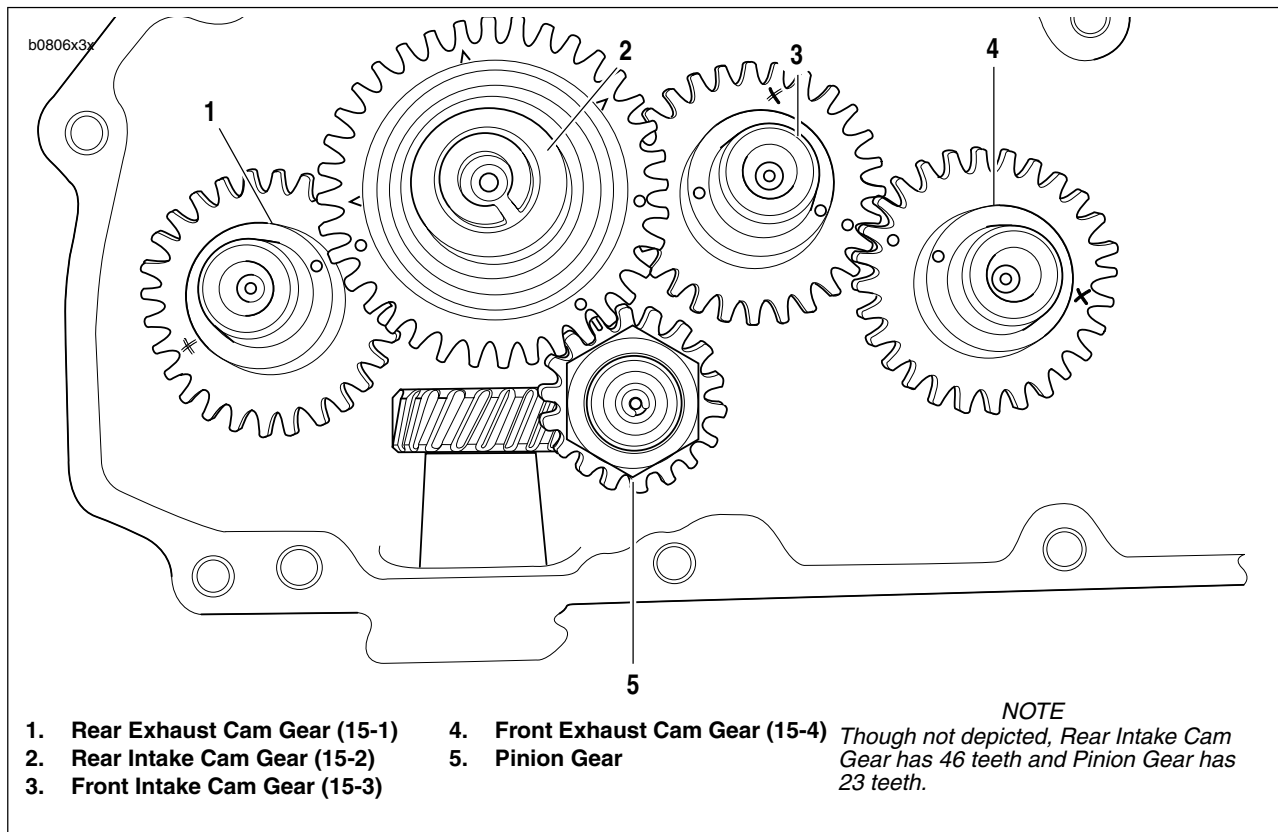

Figure 3-65. Cam and Pinion Gear Timing Mark Indexing
For location of cam and pinion gears, see Figure 3-65.
3. Liberally apply engine oil to bushings, shafts, and gears. Install all cam gears into bushings of right crankcase half, properly aligning timing marks of cam gears and pinion gear. See Figure 3-65.